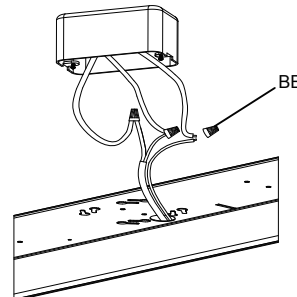

Figure 3
- Connect the house ground wire to the yellow/green ground wire on the mounting plate (Part A) using the wire nut (BB).
- Connect the house white wire to the mounting plate (Part A) white wire using the wire nut (BB).
- Connect the house black wire to the mounting plate (Part A) black wire using the wire nut (BB).
NOTE: For proper connection, place the wire nuts (BB) over wires and twist clockwise until tight. (Figure 3)